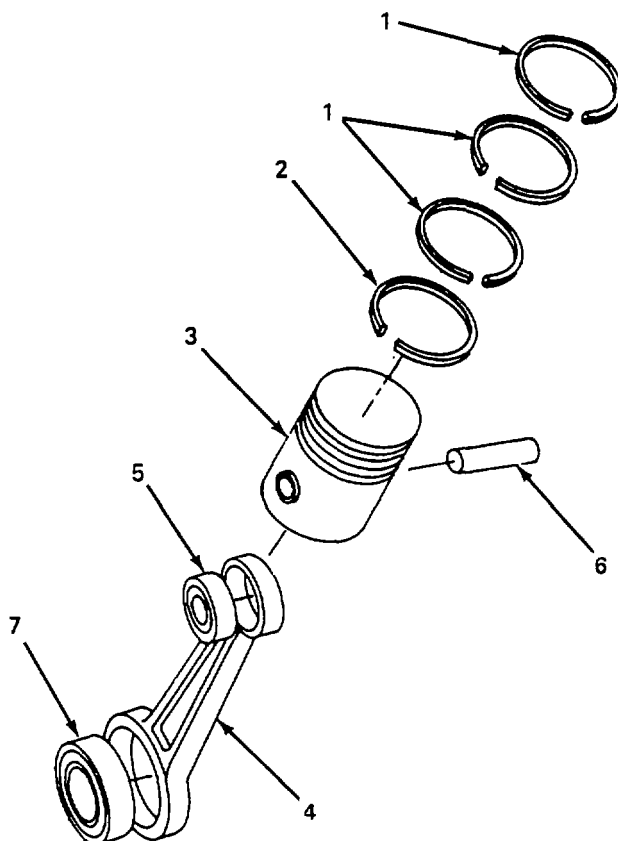

Figure 6-6. Second Stage Piston and Connecting Rod Assembly, Repair.
- (1) Install first stage cylinder (para. 6-8).
- (2) Install second stage cylinder (para. 6-10).
- (3) Install third stage cylinder (para. 6-12).
- (4) Install fanwheel (para. 5-36).
b. Repair. (figure 6-6)
- (1) Remove piston and connecting rod assembly (para.a.).